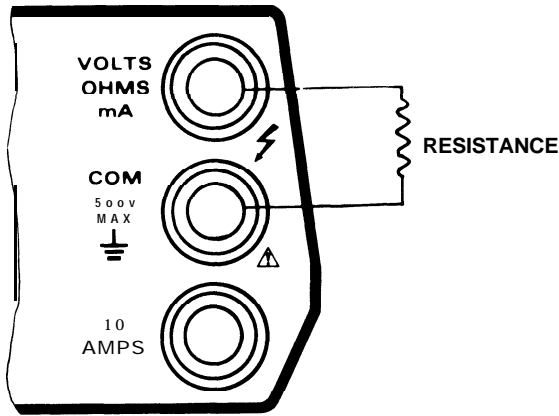

Figure 2-4. Resistance Measurements
- Connect the test leads to the resistance to be measured as shown in Figure 2-4.